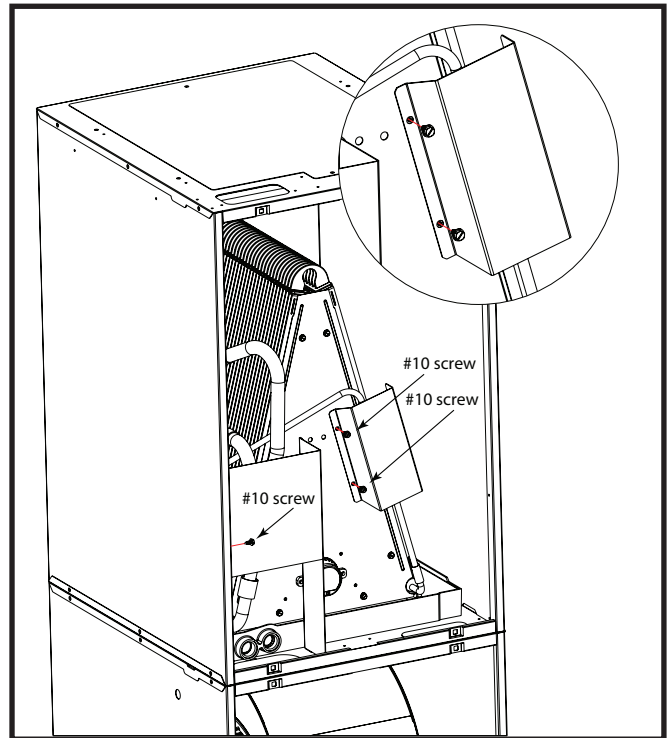

Figure 2. Right Guard Fastened with Screws
3. Install the right guard as shown in Figure 2 and secure with 2 of the supplied fasteners.